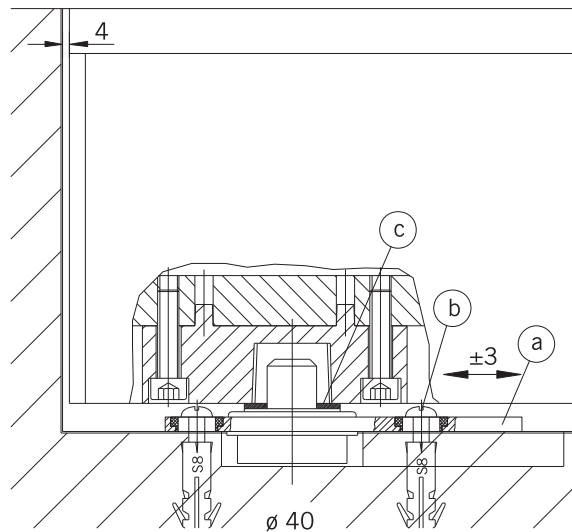

Fig. 5
Install the floor pivot (Fig. 5) or floor spring (BTS) at a distance of 67 mm between the pivot point and the wall. In order to be able to suspend the end panel, bolt (b) must first be wound down. Next erect the end panel by first inserting bolt (b) into the upper pivot assembly (Fig. I) and then setting the panel down onto the floor pivot or floor spring (Fig. II).
5. Floor pivot assembly for pivoting end panel (Fig. 5):